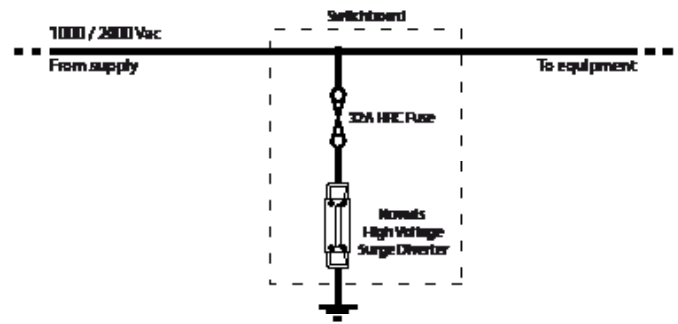

Figure 3: Installation
- 3.1 Connection:** The high voltage surge diverters are designed to be shunt connected between active and neutral or earth (Figure 3). Neutral-earth protection must be considered to effectively protect equipment when applicable.
- 3.5 Isolation:** Novaris recommends the installation of a 32A HRC fuse in series with the surge diverter to protect the surge diverter from continuous overvoltage (Figure 3).